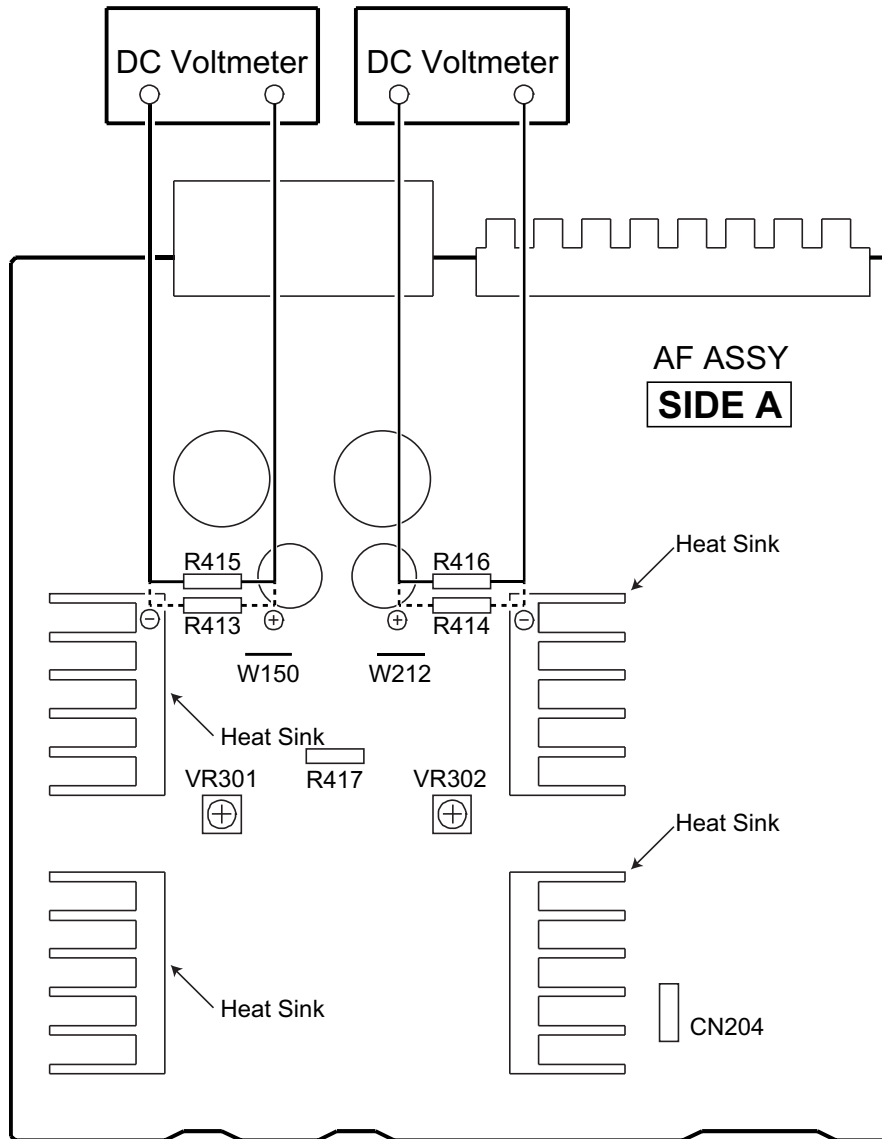

Fig.6-1 Adjustment Method
1. Connect the measuring instrument as Fig.6-1. (R415 or R416)